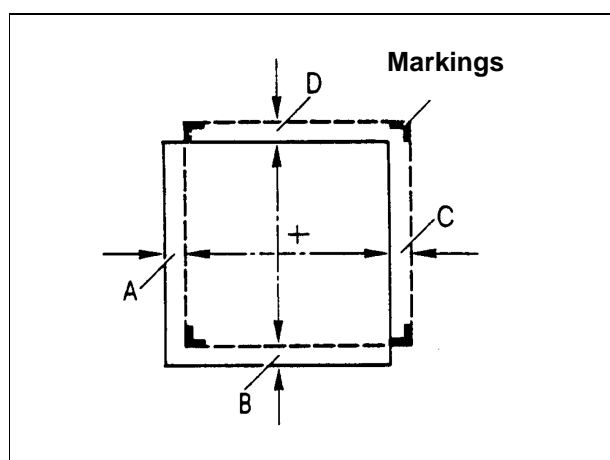

Fig. 13
- Develop the film and measure the deviation. Acceptable deviation $\pm 1.7\%$ (Fig. 13).